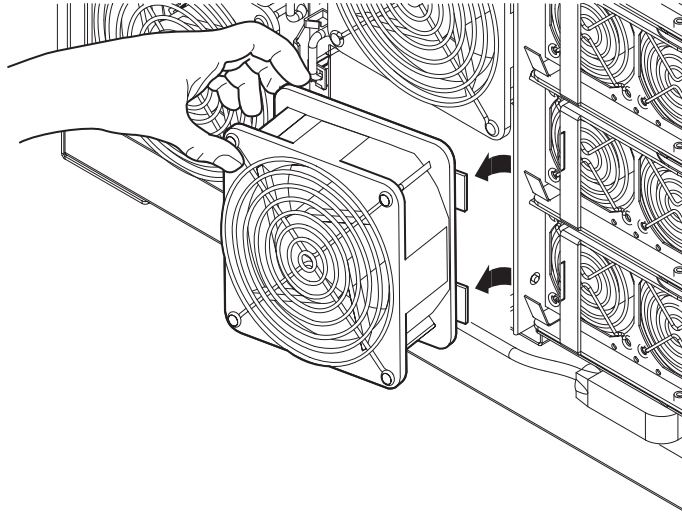

FIGURE 7-3 Removing a Fan
7. Remove the fan and place on an ESD mat (FIGURE 7-3).